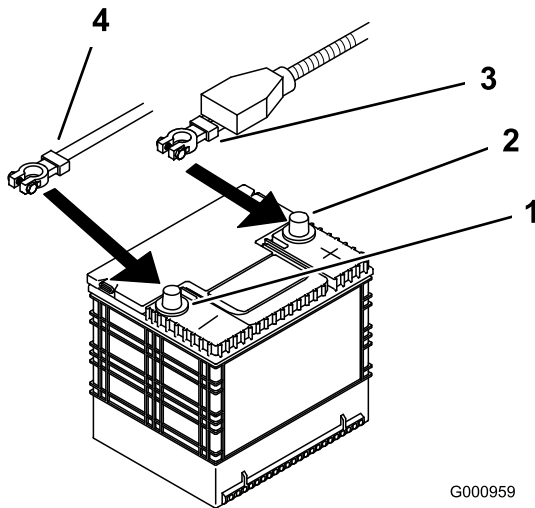

Figure 48
4. First disconnect the negative battery cable from the negative (-) battery terminal (Figure 48).
5. Slide the red terminal boot off the positive (red) battery terminal. Then remove the positive (red) battery cable (Figure 48).
1. Position battery in the tray with the terminal posts opposite from the hydraulic tank (Figure 48).
4. Secure the cables with 2 bolts (1/4 x 3/4 inch), 2 washers (1/4 inch), and 2 locknuts (1/4 inch) (Figure 48).